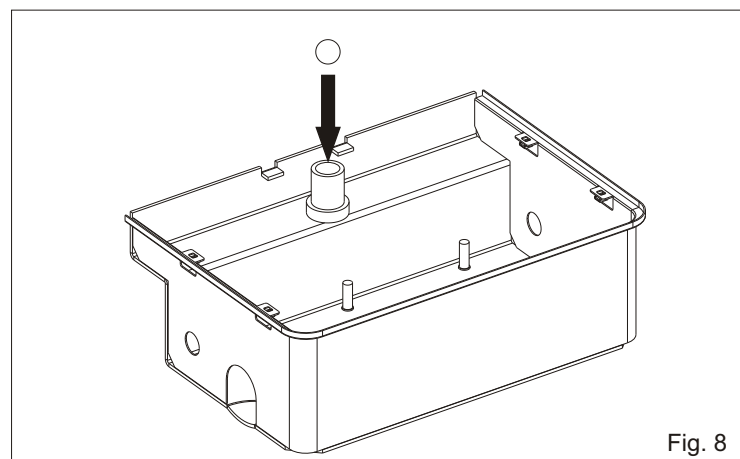

Fig. 8
2.4. Insert the ball into the perforated shaft (Fig. 8)